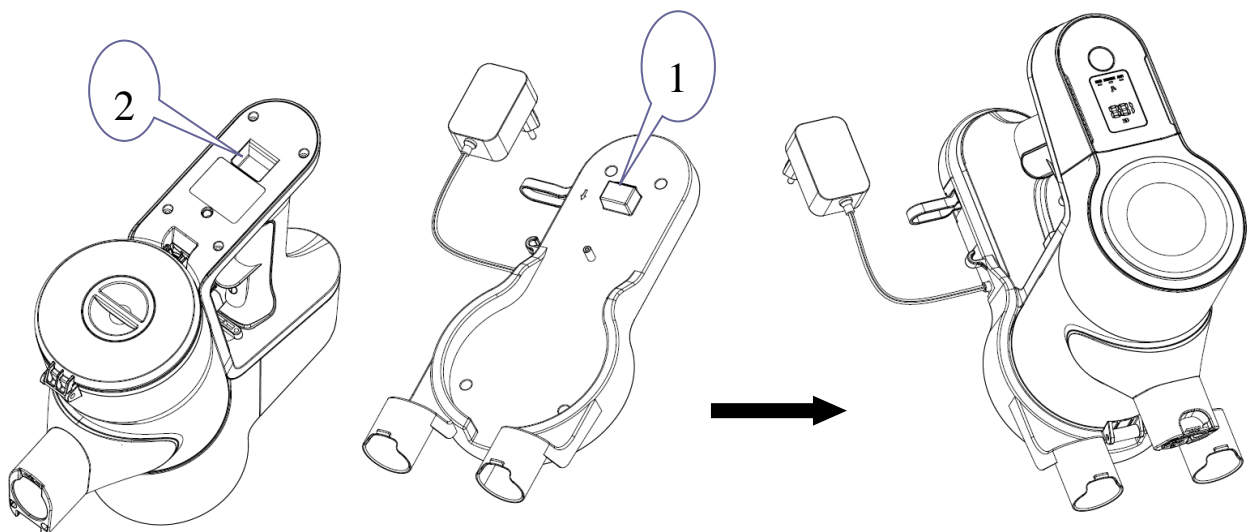

Figure 5-1
5.1 Charging mode: as shown in Fig. 5-1, hang the hook (No.1) engaged into the square hole (No.2) in the low body of the cleaner, and the charger is plugged into the main unit at the same time. While charging the LED screen will show the level of charge. When the LED shows 100%, the battery is fully charged. The charge time is 4-5 hours.